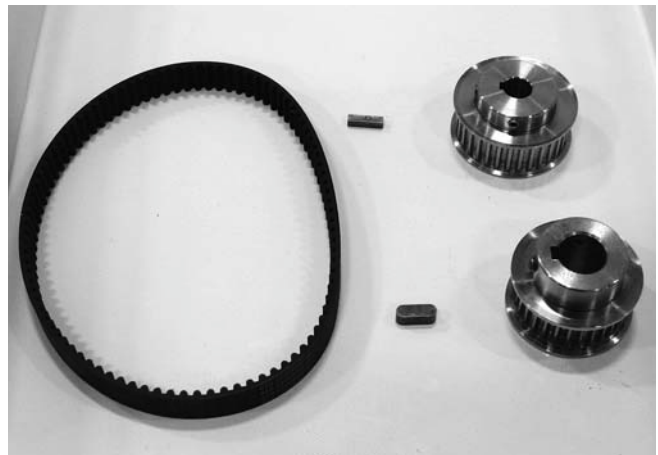

Figure 49
5. Replace components, as needed (**Figure 49**).